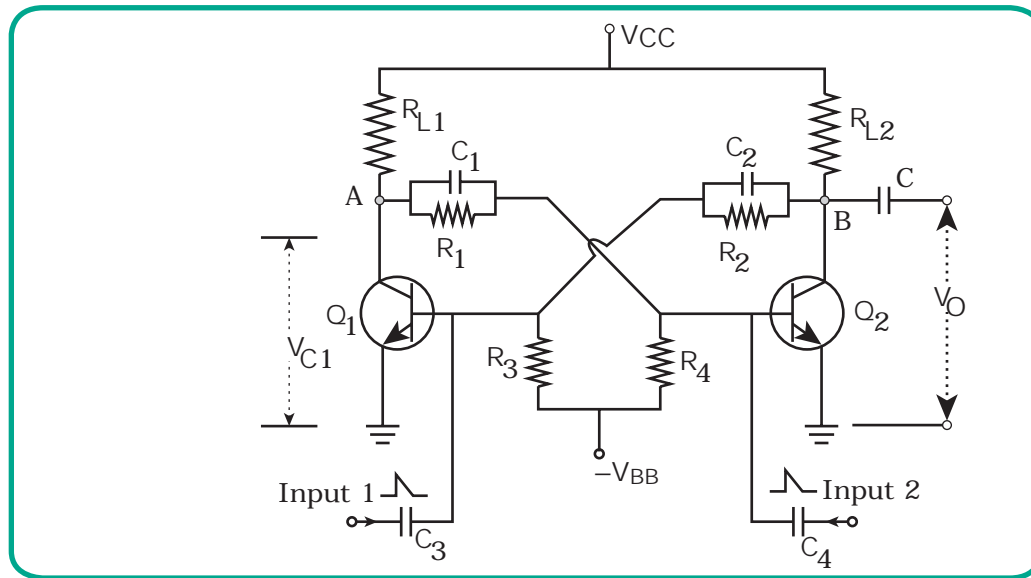

Figure 7.9 Bistable Multivibrator
**Construction:** Figure 7.9 shows the circuit of a bistable multivibrator using two NPN transistors. In this circuit, the output of a transistor  $Q_2$  is coupled to the base of